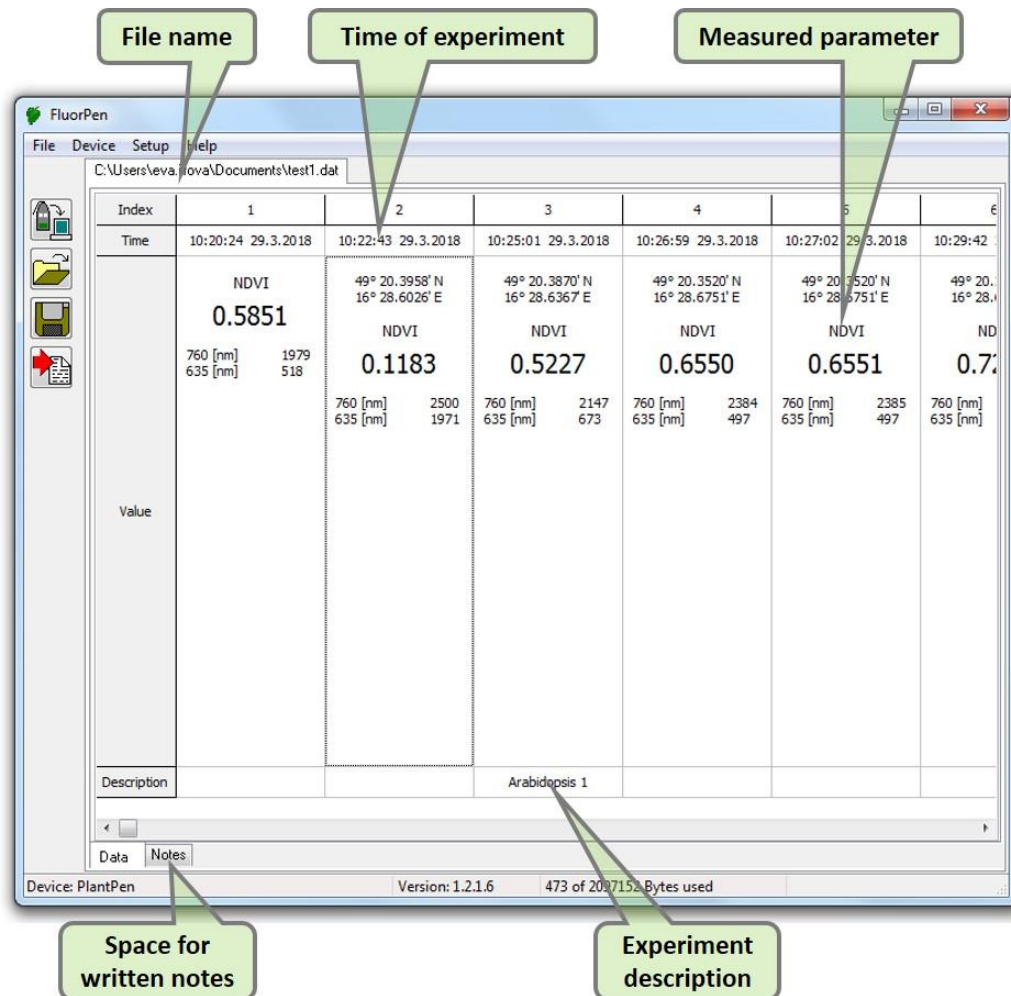

Fig. 16 Example of data transfer.
1. Perform a measurement with your PlantPen. In Fig. 16 we did an NDVI measurement.